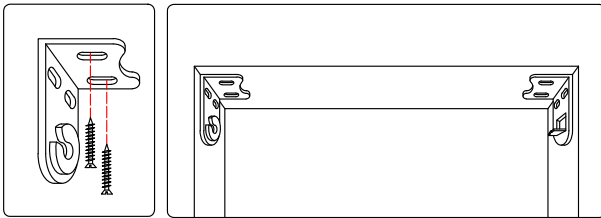
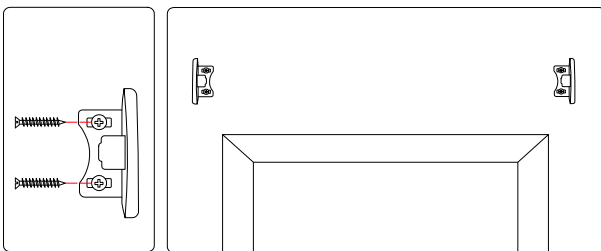
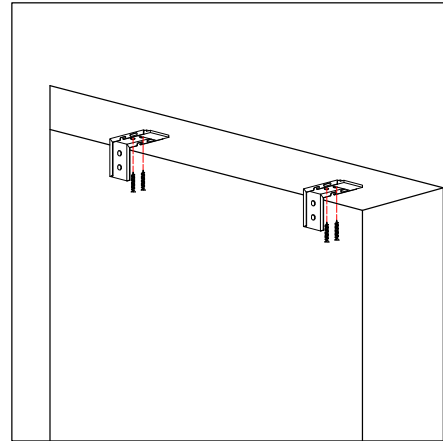
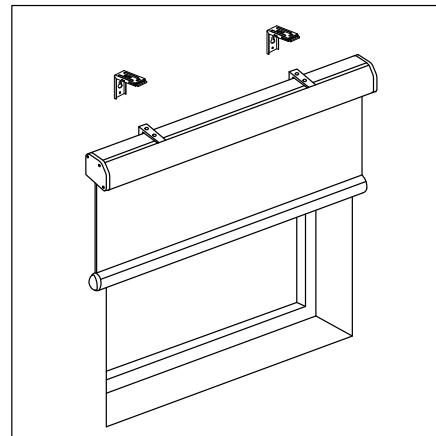

Fig. 2
Fig. 3
Fig. 4
Fig. 5
- B. For inside mount, screw through the top of the bracket. For outside mount, screw through the backside of the bracket. [Fig. 2, Fig. 3, Fig. 4 and Fig. 5]